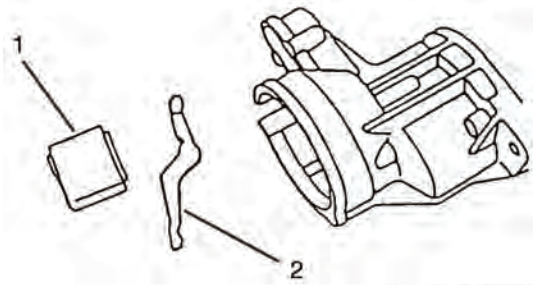

Figure 346
8. Disassemble the dust cover (3, Figure 346) and shift the lever (4, Figure 346) from the gear housing.